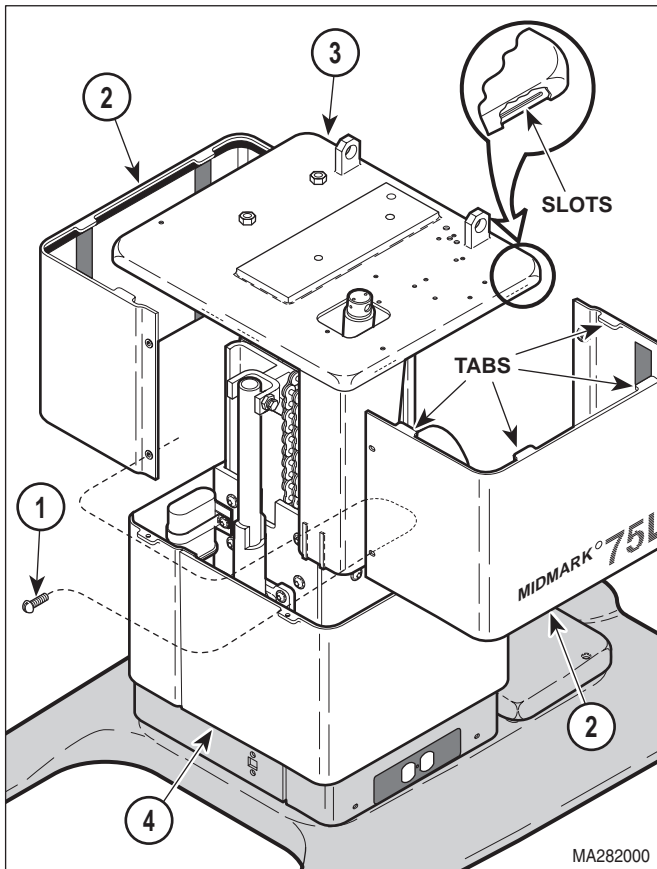
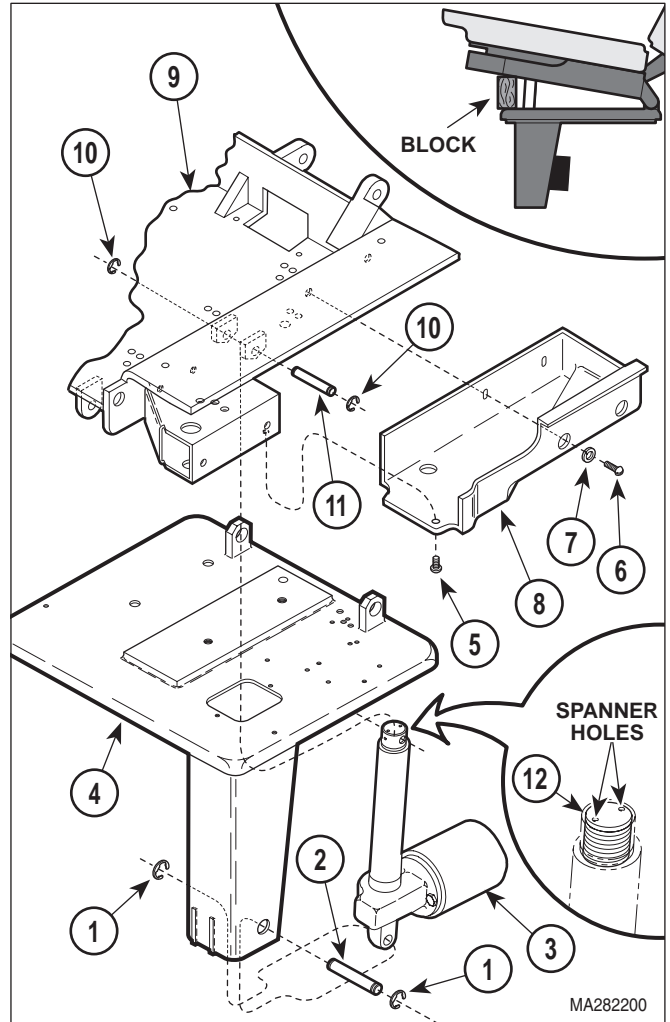

Figure 4-2. Tilt Actuator Access
Figure 4-4. Tilt Actuator Removal / Installation
- (1) Raise BASE UP function all the way up.
- (2) Unplug table power cord from wall outlet.
- (3) Remove four screws (1, Figure 4-2) and R.H. and L.H. outer shrouds (2) from column adapter weldment (3).
- (13) Remove two e-rings (1, Figure 4-4) and clevis pin (2) securing base of tilt actuator (3) to column adapter weldment (4).
- (14) Remove screw (5), two screws (6), lockwashers (7), and L.H. stirrup housing (8) from seat weldment (9).
- (15) Raise seat weldment (9) up far enough to get access to pivot pin (11). Block seat weldment up in this position.
- (16) Remove two e-rings (10) from pivot pin (11).
- (17) Using a hammer and punch, drive pivot pin (11) out of seat weldment (9) and remove tilt actuator (3) from table.
- (1) Install tilt actuator (3, Figure 4-4) on column adapter weldment (4) and secure with clevis pin (2) and two e-rings (1).
- (4) Position bottom of tilt capacitor (8) on capacitor mounting bracket (5) and then push the top of the capacitor inward. Using a screwdriver, force the tab of the capacitor mounting bracket down over the catch of the cap (9). Make sure tilt capacitor is held firmly in place.
- (5) Connect actuator wire (6) to wire (7).
- (6) Secure bundle of wire harnesses to capacitor mounting bracket (5) with a cable tie.
- (7) Install connection cover (3) on column adapter weldment (4) and secure with two screws (2).
- (8) Secure actuator cable to tilt actuator (1) with two cable ties.
- (9) Using spanner holes, unscrew adjustable clevis (12, Figure 4-4) until it is even with top of actuator rod.
- (10) Plug table power cord into wall outlet.
- (11) Run TILT UP function to extend rod of tilt actuator (3) 3 to 4 in. (7.6 to 10.2 cm).
- (12) Remove support block; then temporarily connect tilt actuator (3) to seat weldment (9) with clevis pin (11).
- (13) Lower TILT DOWN function all the way down (until tilt actuator can be heard free wheeling).
- (14) Observe. Seat weldment (9) should be parallel with top of column weldment adapter (4). If seat weldment *is* parallel with top of column weldment adapter, go to step 19. If seat weldment *is not* parallel with top of column weldment adapter, go to step 15.
- (15) Extend TILT UP function 3 to 4 in. (7.6 to 10.2 cm).
- (16) Remove clevis pin (11) and block seat weldment (9) in this position.
- (17) Using spanner holes, screw adjustable clevis (12) in or out as determined necessary in step 14.
- (18) Repeat steps 12 thru 17 until seat weldment (9) is parallel with top of column adapter weldment (4) when tilt actuator (3) is free wheeling at the end of its down stroke.
- (19) Secure clevis pin (11) in place with two e-rings (10).
- (20) Install L.H. stirrup housing (8) on seat weldment (9) and secure with two lockwashers (7), screws (6), and screw (5).
- (21) Install tabs of R.H. and L.H. outer shrouds (2, Figure 4-2) in slots column adapter weldment (3) and secure with four screws (1), making sure middle outer shroud assembly (4) is captured by R.H. and L.H. outer shrouds (2).
- (22) Plug table power cord into wall outlet.